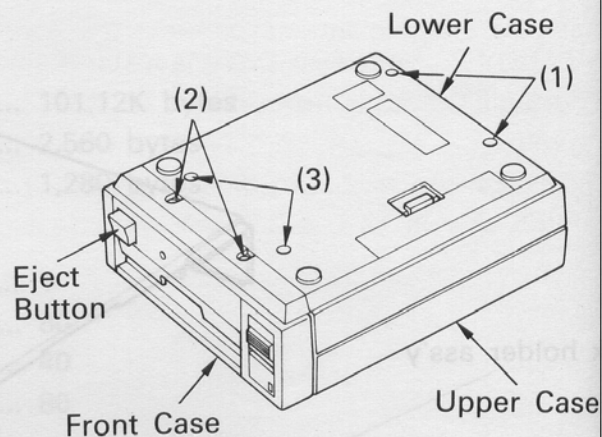
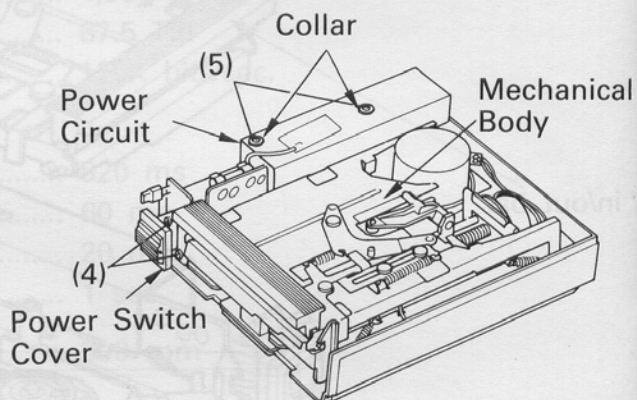

Fig. 3-2
Fig. 3-3
1. Refer to Fig. 3-2 and loosen 2 set screws (1) near the back of the lower case.
3. Loosen the 2 set screws (2) closest to the front edge of the lower case.
5. Refer to Fig. 3-3 and remove the power switch cover.
6. Remove the 2 set screws (4).
7. Remove the 2 set screws (5) and two collars.
8. Loosen the 2 set screws (3) nearest the center of the lower case. (See Fig. 3-2.)
9. Detach the lower case by holding onto the mechanical body and the power circuit (Fig. 3-3); then lift up.